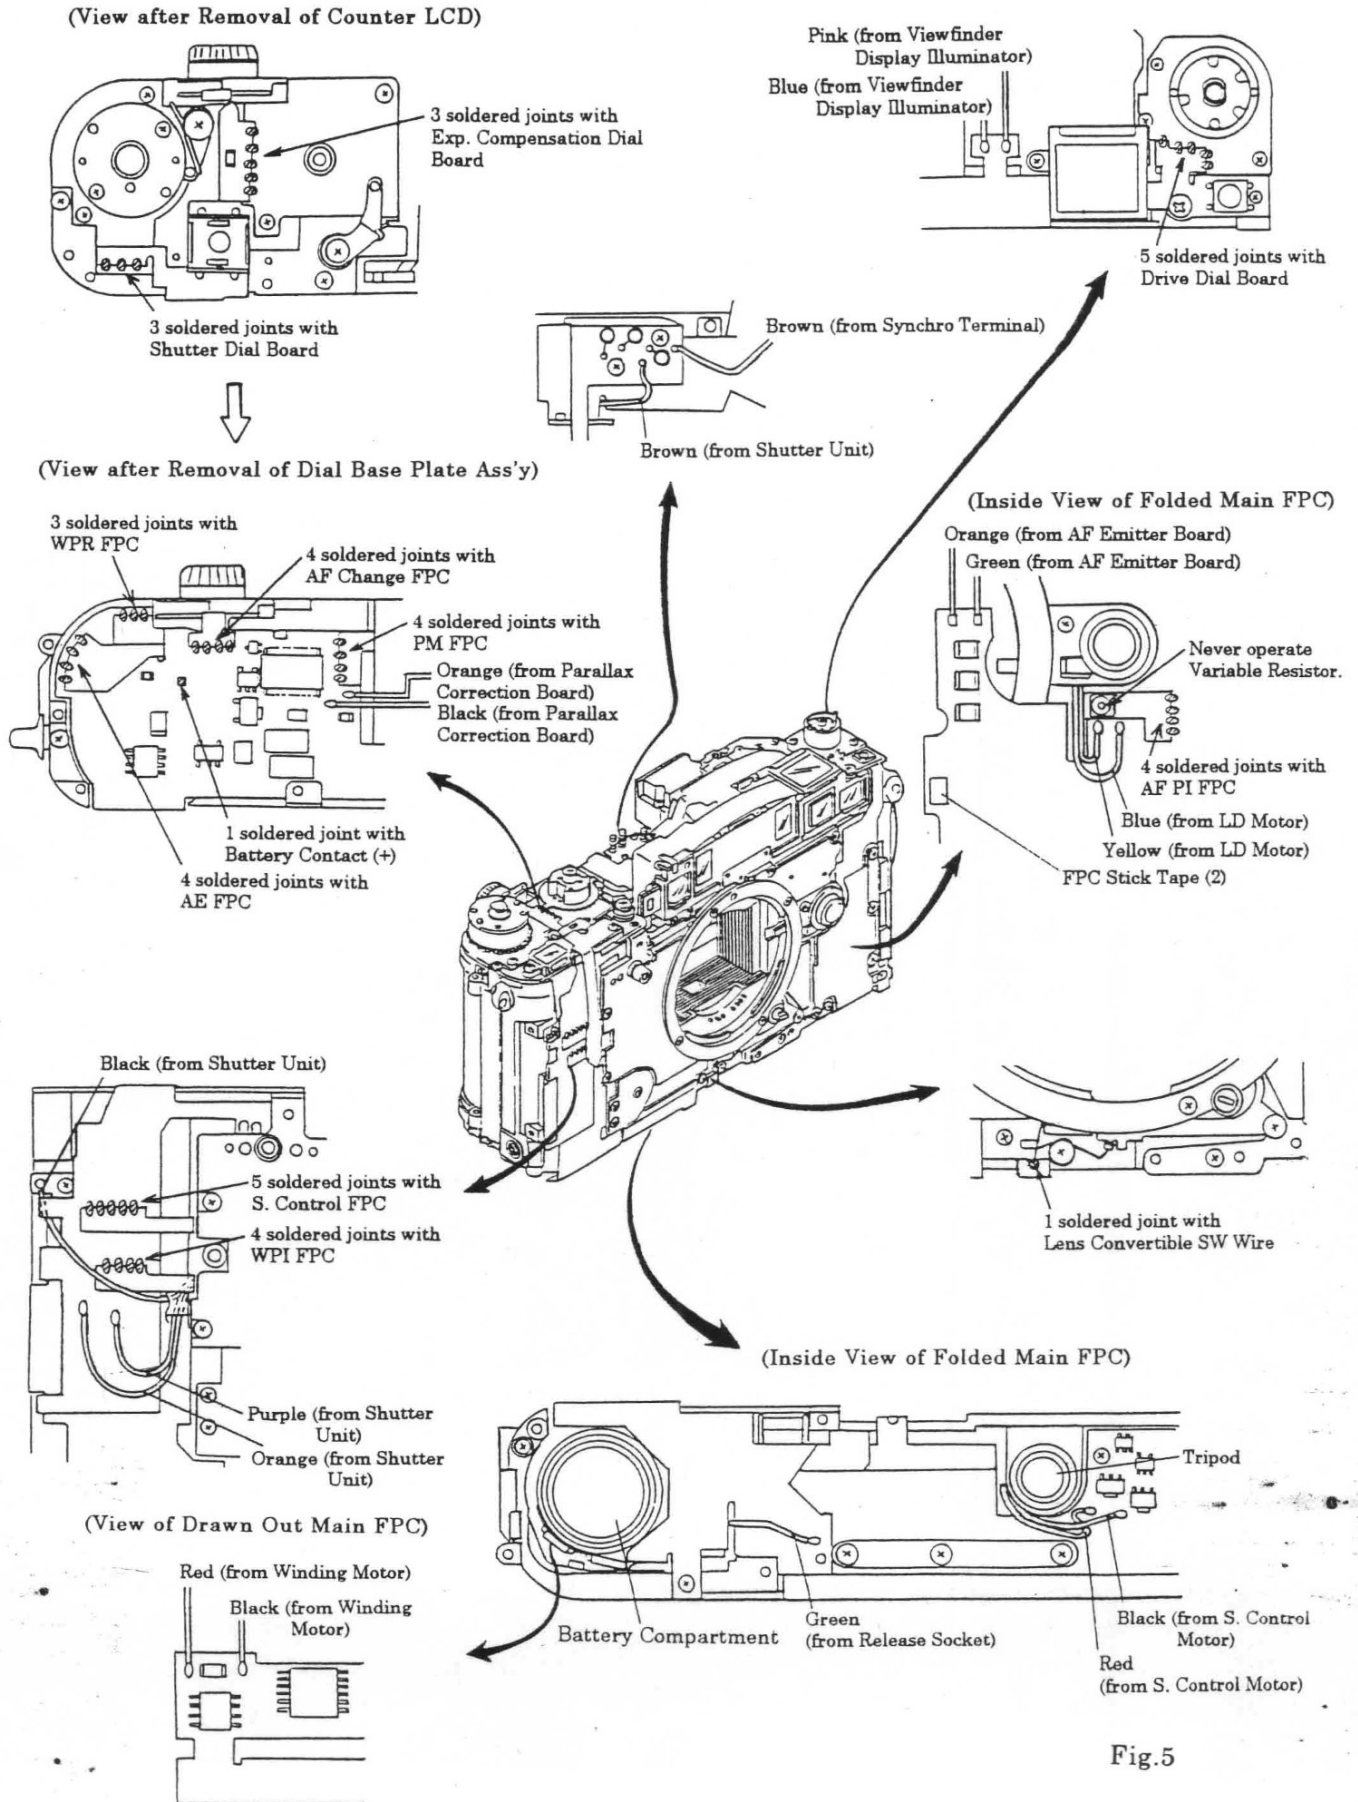

Fig.5
- 2) Unsolder the soldered joints and lead wires on the Main FPC Ass'y. (See Fig. 5)
- 4) Unsolder the soldered joints and lead wires on the Main FPC Ass'y. (See Fig. 5)